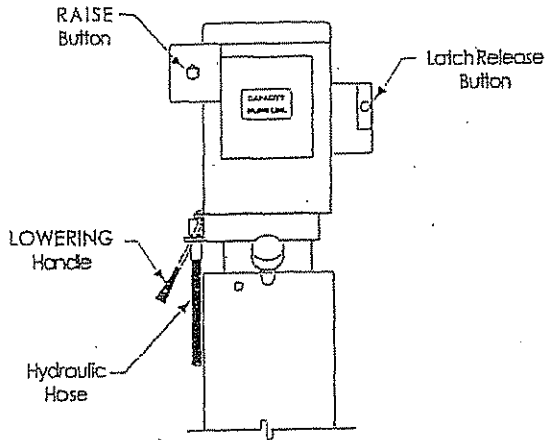

Fig. 26
1. Push the RAISE button on the power unit. Release button at desired height, Fig. 26.
2. Push the latch release button on power unit, Fig. 26, to disengage all four (4) locking latches.
3. Keeping the latch release button depressed, push lowering valve handle on the power unit to lower lift, Fig. 26. Lowering speed can be controlled by the force applied to the lowering valve handle.